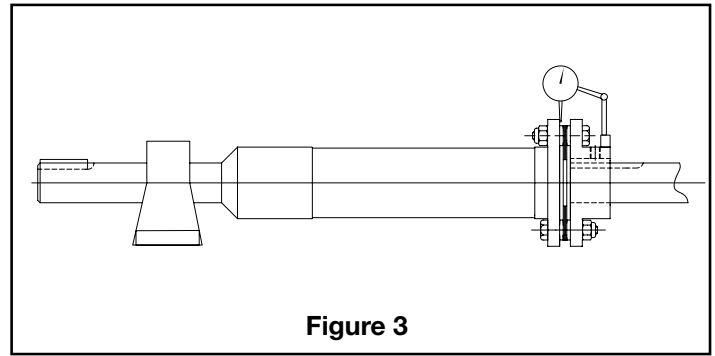

Figure 3
3. Attach a dial indicator to each hub. Indicate a point on the nearest spacer flange face as shown. Any method may be used to attach the indicator to the hub, be sure it is firmly attached. See Figure 3.